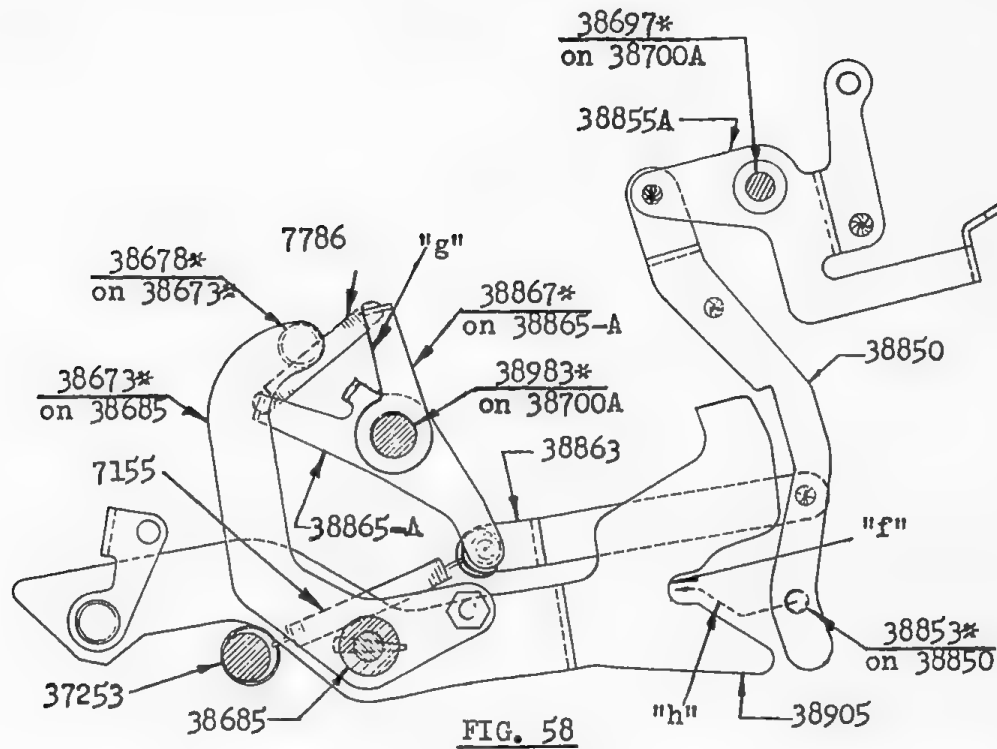

FIG. 58
7. (Fig. 58). It has been described in Section V-Para. C-2, page 1262, that 38575A rocks the vertical Shift Direction Link-38850 through Stud-38607* on 38575A. With 38575A back at its normal position, Lever-38905 can now rotate counter-clockwise to stop on the Roller on the Tab Bail and Link-38850 can now be brought back into the notch "f" on the